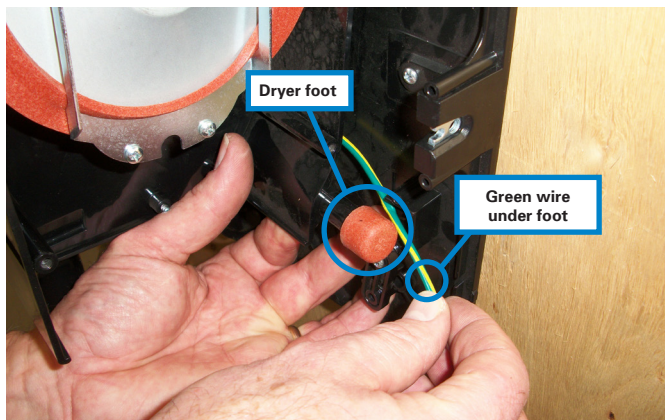

Figure 3-5
Step 3-5. With the retainer removed, pull the corner of the dryer out away from the base plate enough to pull the green ground wire underneath the dryer foot toward the bottom of the dryer. (**Figure 3-5**)